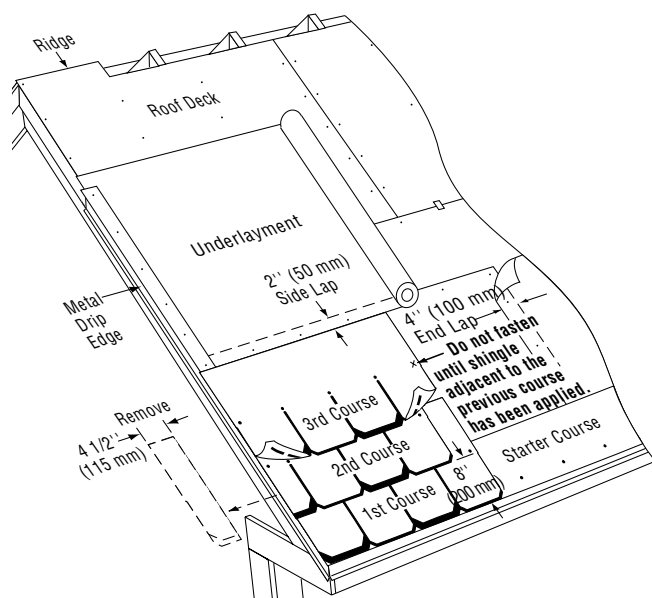

Figure 17-9: Applying the first 3 courses on a standard slope.
**1ST COURSE:** The first course starts with a full shingle at the lower left corner of the roof. Keep the tabs flush with the left and bottom edges of the starter course (Figure 17-9).
**2ND COURSE:** Cut 4-1/2" off the left end of a shingle. Apply the remaining larger piece over the first-course shingle, flush with the left edge and leaving 8" of the first course exposed. Snap chalk lines horizontally and vertically, as necessary (Figure 17-9). Be sure to check for proper alignment.